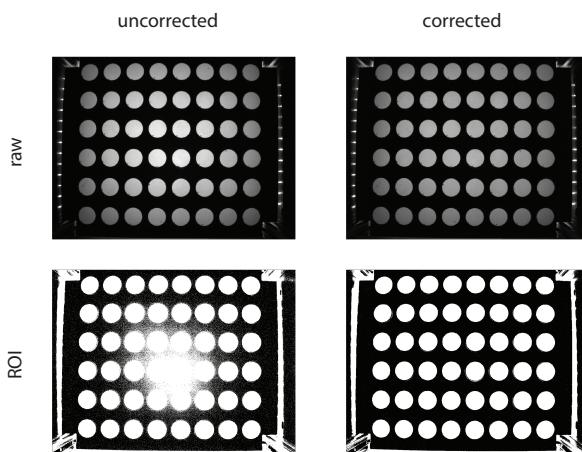

figure 5.4 - vignette correction can improve automatic ROI detection
- **Gaussian correction** is utilized in *auto ROI detection* mode prior to initial detection of ROIs. Uneven illumination occurs most commonly as vignetting (ie. light fall-off) at the edges of image (fig 5.4). Autotracker uses the assumption of a gaussian profile of vignetting centered on the image to smooth out the illumination. The width and weighting of the gaussian can be adjusted under *tracking parameters*. Figure 5.4 illustrates how correcting vignetting can allow all ROIs in the image to be cleanly separated from the background.